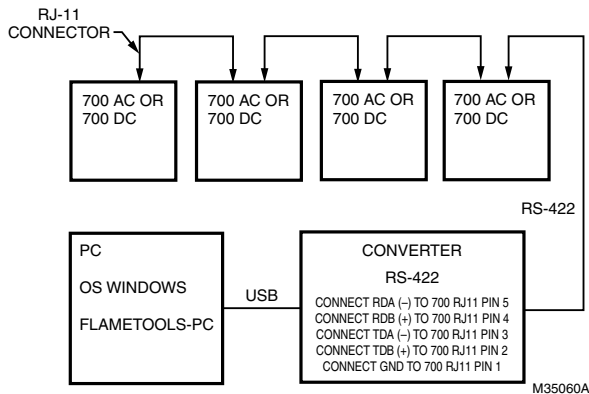

Fig. 3. 700 AC and DC Signal Processor wiring.
3. Connect the Industrial Flame Monitoring Signal Processors to the RS-485/422 side of the RS-485/422 to USB converter. Refer to the wiring details further in this document, see Figures 3 - 6.